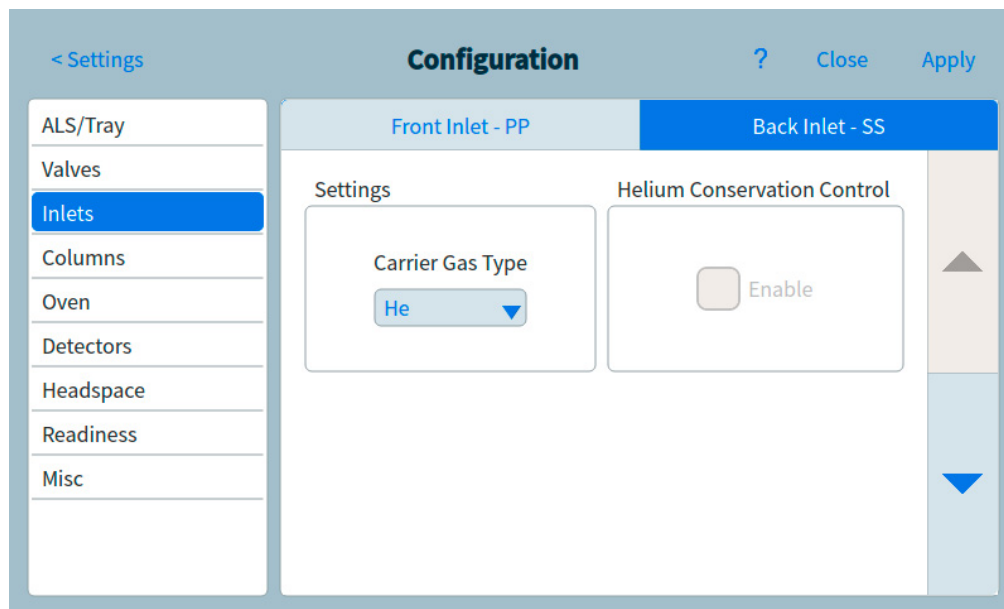

Figure 54. Inlets page
- 1 Select **Settings > Configuration > Inlets**. The properties for the selected device type appear on the right side of the screen. See **Figure 54**.